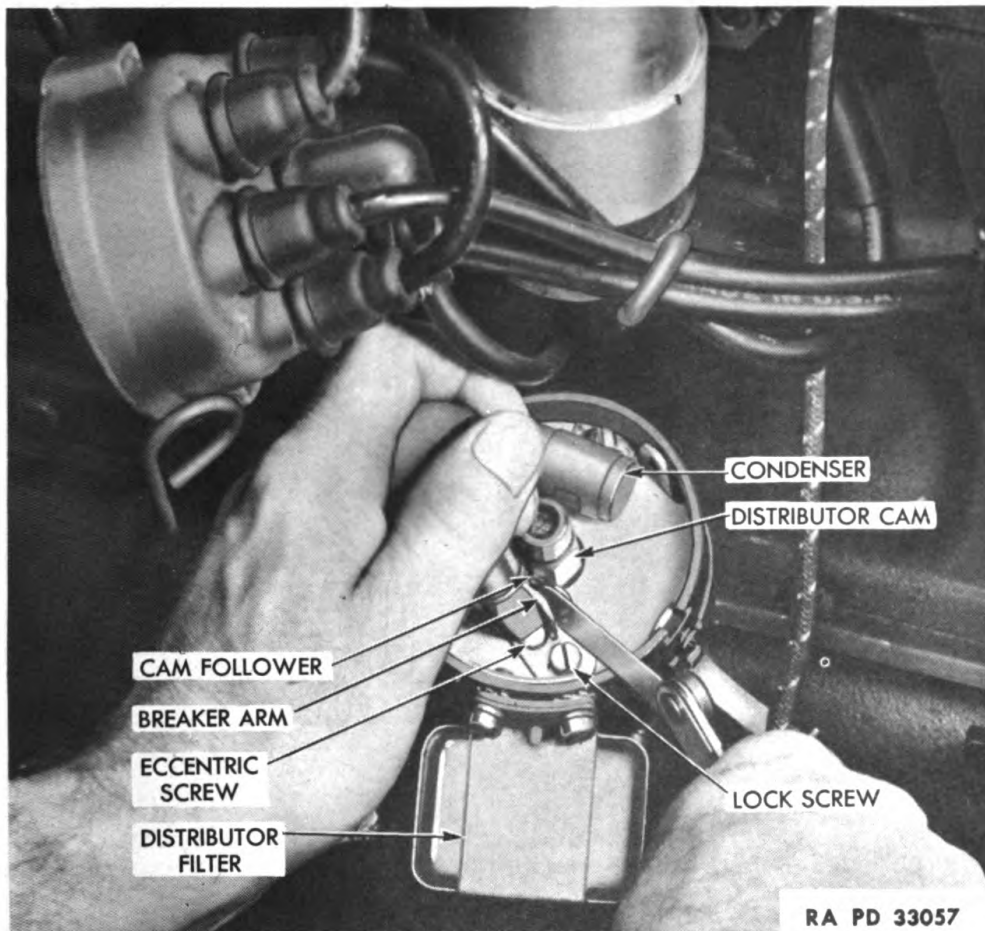

Figure 21—Distributor Point Adjustment
(5) Hand-crank the engine until the cam follower rests on the peak of the cam. Adjust the point gap to 0.018 inch, using a feeler gage (fig. 21). This operation must be performed very accurately, as it affects point-dwell, or length of time points stay together. Hand-crank the engine until the cam follower is located between the cam peaks. Hook the end of a point scale over the movable